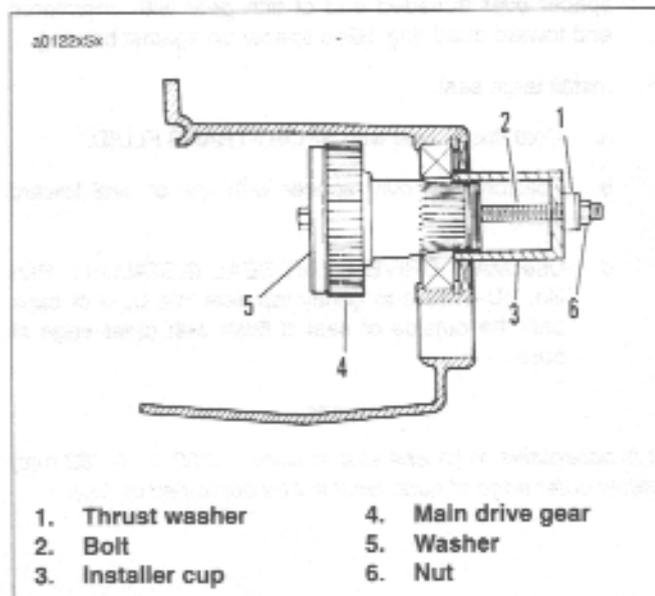
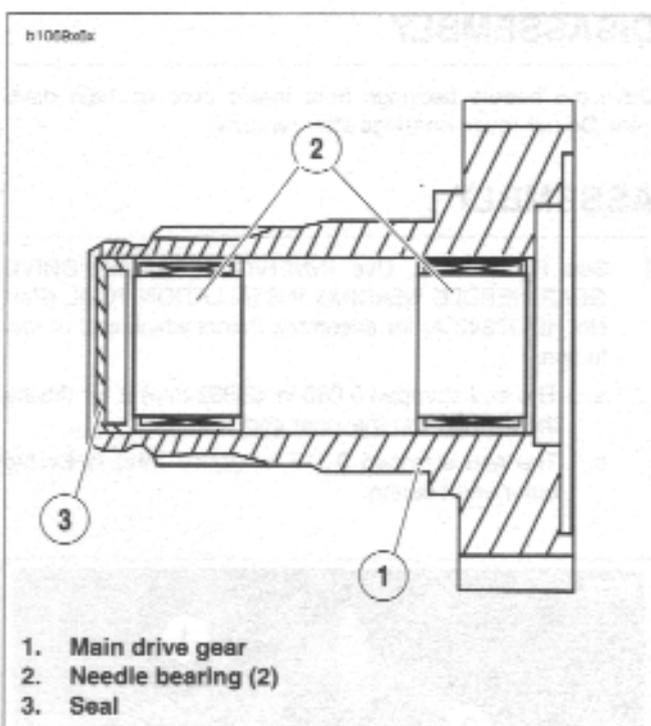

Figure 6-67. Main Drive Gear Installation
Figure 6-68. Main Drive Gear Assembly
2. See Figure 6-67. Use MAIN DRIVE GEAR REMOVER AND INSTALLER (Part No. HD-35316-A) for assembly.
- a. Take bolt (2) and place washer (5) followed by main drive gear (4) over end of bolt.
- c. Insert threaded end of bolt (2) through installer cup (3) and thrust washer (1).
- d. Thread nut (6) onto end of bolt (2). Tighten nut (6) until shoulder on gear (4) bottoms against inner race of bearing.
3. See Figure 6-68. Tap in new seal (3) at threaded end of 5th gear to a depth of 0.060-0.030 in. (1.524-0.762 mm).